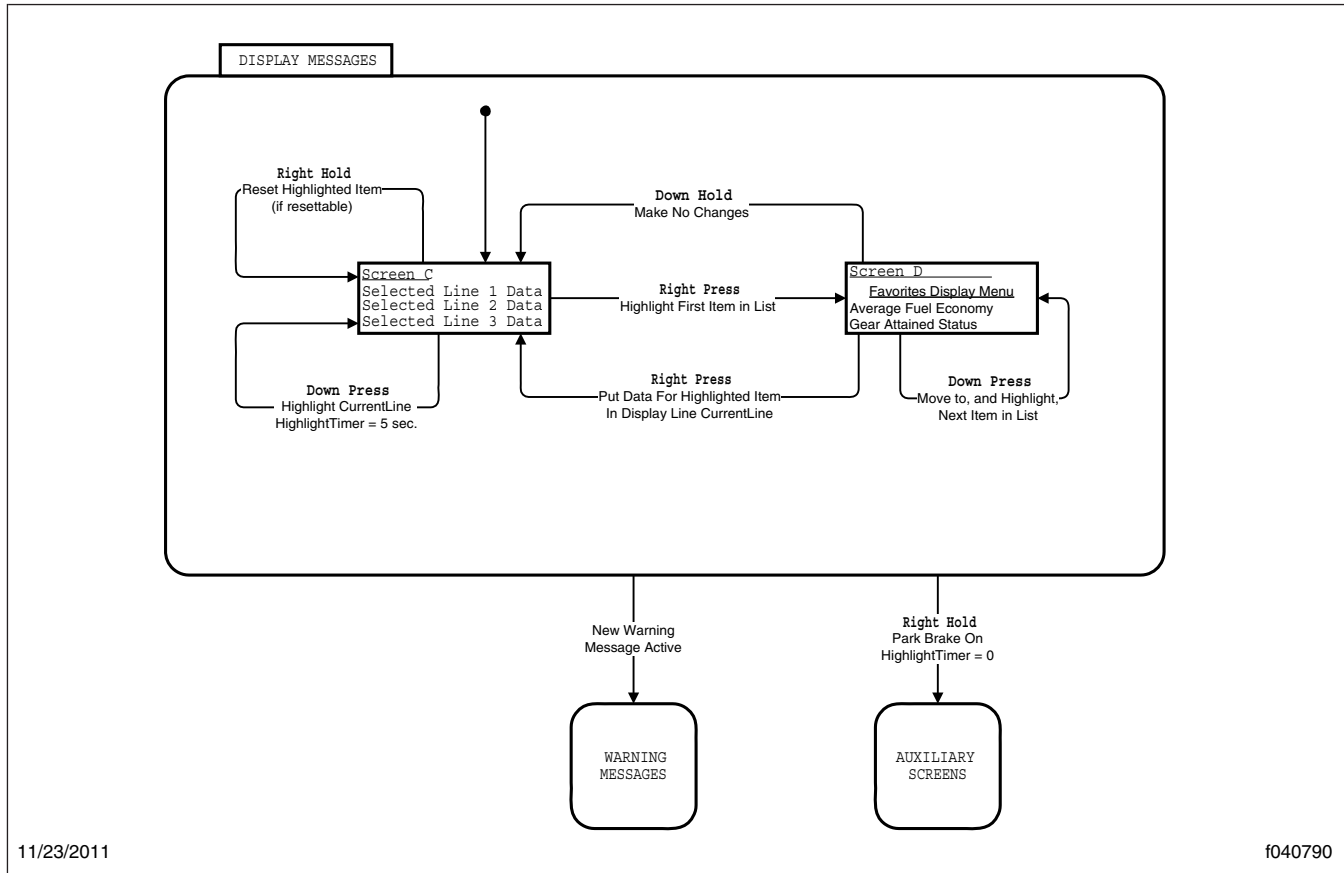

Fig. 15.13, Display Messages
display center is referred to as screen C in **Fig. 15.13**.
3. Press the right toggle button once to enter the favorites display menu, shown in **Fig. 15.13**, as screen D.